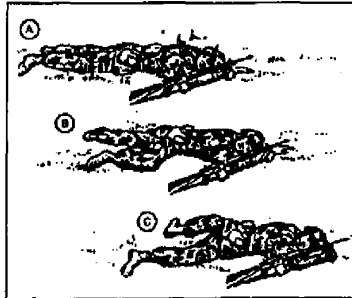

Figure 071-326-0502-3. Low crawl
- 6. Use the rush to move from one covered position to another when enemy fire allows brief exposure (figure 071-326-0502-4).**